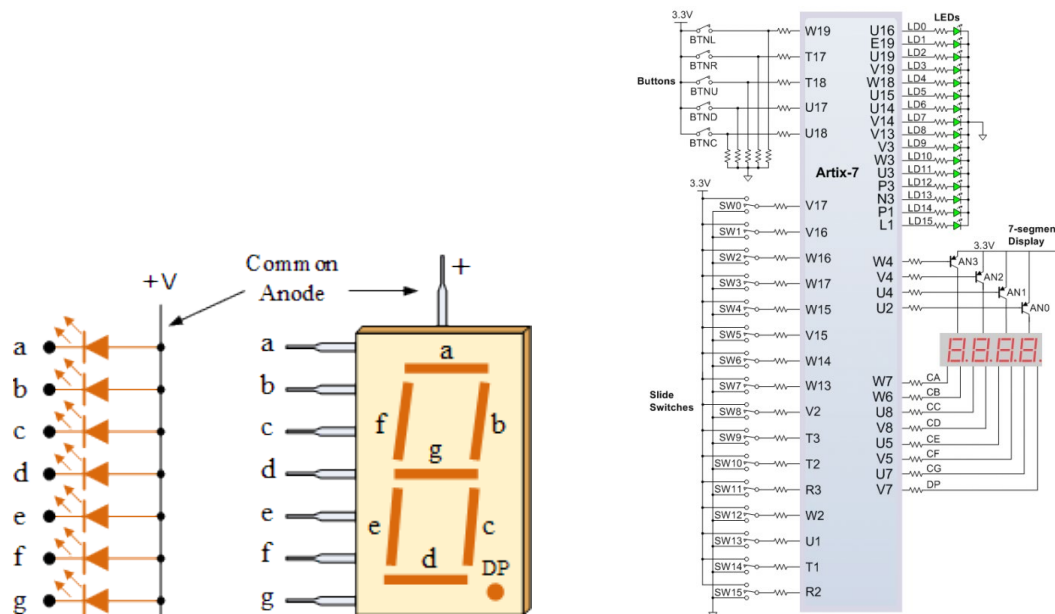

Figure 1
In this lab we will build a decoder circuit that can drive a common anode 7-segment LED display using a combinational logic circuit. The logic circuit is designed with four inputs and seven outputs. The four inputs will be connected to the switches on the Basys 3 development board, while the seven outputs will be connected to one of the four common anode 7-segment LED displays on the development board. Using Karnaugh's map, logic circuitry for each input to the display will be designed. Figure1 shows a common anode 7-segment LED display and the pinout of the Basys 3 development board.
Step 5 Copy step F from lab 1 and create a constraints file for the 7 Segment display decoder circuit. The constraints file should connect the inputs to the switches on the Basys 3 development board, connecting input A to SW3, B to SW2, C to SW1 and D to SW0. The constraints file should also connect the outputs CA, CB, CC, CD, CE, CF and CG to segments CA, CB, CC, CD, CE, CF and CG on the 7 Segment displays. Figure 1 shows what pins connect the FPGA to the switches and 7 Segment display. Paste your code for the constraints file in the box below.